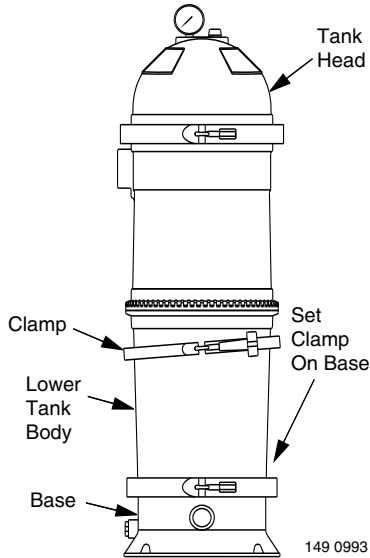

FIGURE 1 – PTM135
2. Remove Clamp Fastener from clamp indicated in Figures 1 and 2.
3. Loosen indicated clamp (see Figures 1A and 1B); remove clamp by lifting straight up over tank or dropping it onto filter base (See Figures 1, 2, and 3).